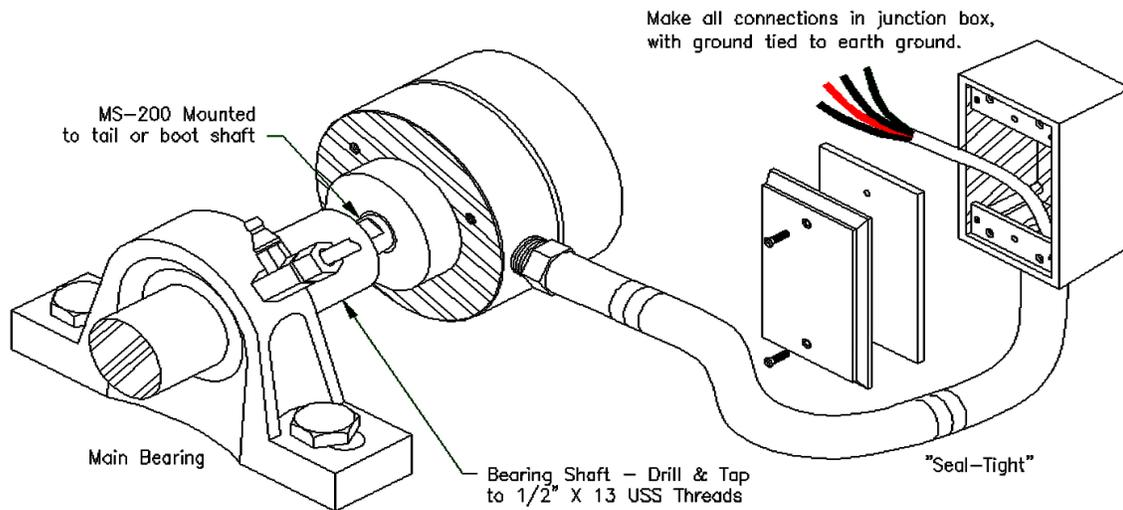

Figure 22. MS-200-60 Mounting to Bearing shaft
5.1.3.1.6. Feed the 18 AWG 4-conductor cable through the appropriate "Seal-Tight" from the MS-200 and attach to a junction box. (See figure 22). Use CCL-318 cable to connect from the MS-200 to the BTX Module.